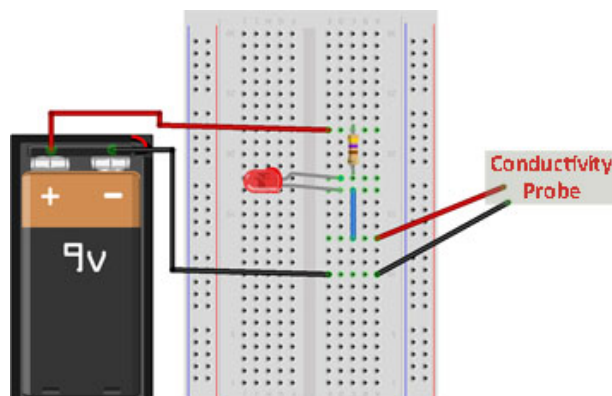
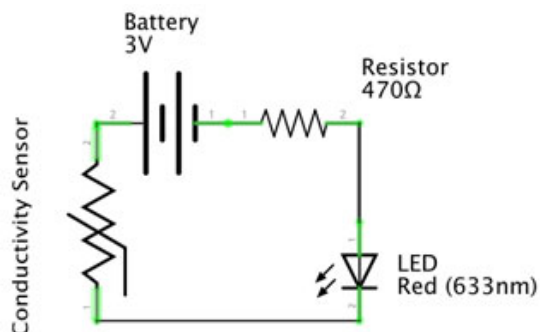

Figure 9. Conductivity sensor testing setup.
Figure 10. A schematic of the LED circuit.
1. Following the handout instructions, groups each create a simple circuit using a breadboard, LED, 470  $\Omega$  resistor, 9V battery with wires and some jumper wires. Refer to Figure 9 for the completed circuit and Figure 10 for the circuit schematic.